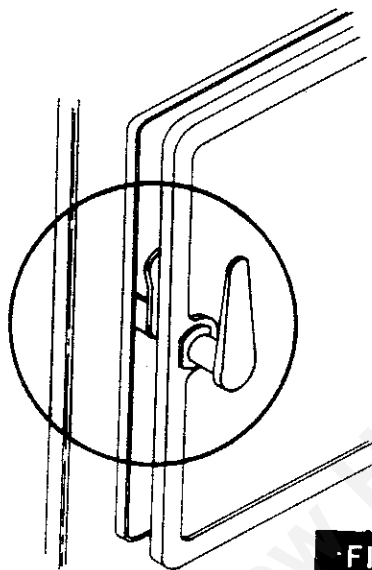

FIG. 12
2. Turn handle clockwise to the 12 o'clock position, pull the door open until you engage the second step. (Fig. 12).